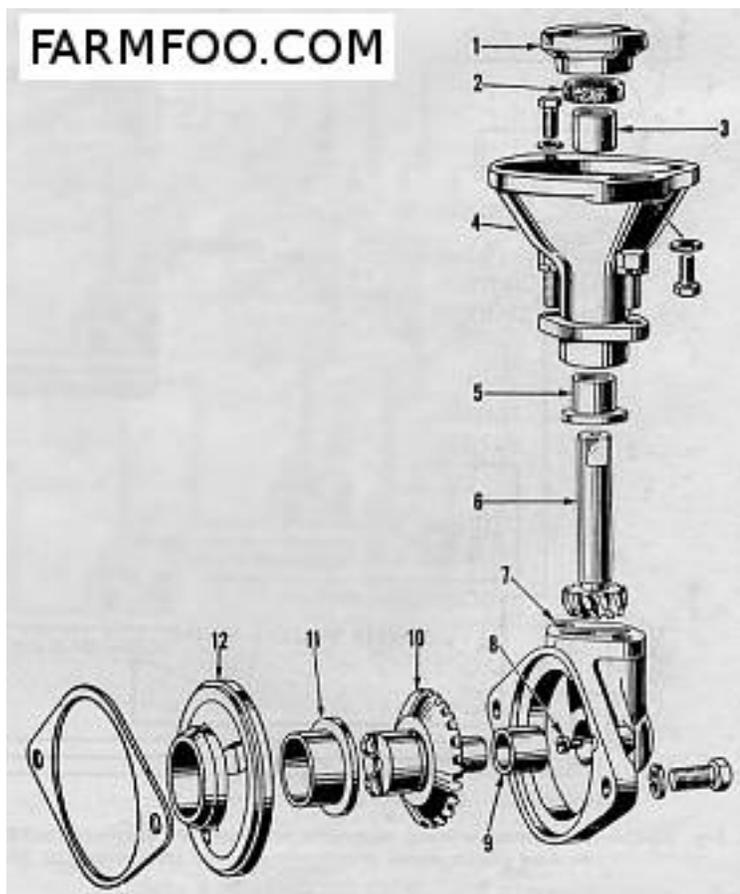

Fig. F047 - Magneto drive adapter optional equipment on 2N.
61. Some model 2N tractors are equipped with magneto ignition systems. A Fairbanks-Morse FM-J4B73 magneto is used and is driven by the camshaft through a magneto drive adapter as shown in Fig. F047. Refer to Standard Units manual for detailed overhaul and test information on magnetos.